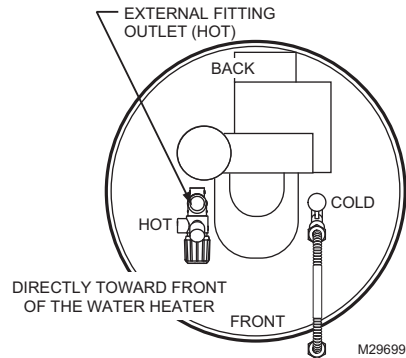

Fig. 6. Install mixing valve.
4. Install the AMX300 mixing valve onto the water heater's hot water outlet. If installing on a water heater with 1-in. outlet fitting, use 1-in. FNPT to 3/4-in. MNPT brass reducer bushing and brass nipples. Tighten until leak tight and facing the front of the water heater as shown in Fig. 6.